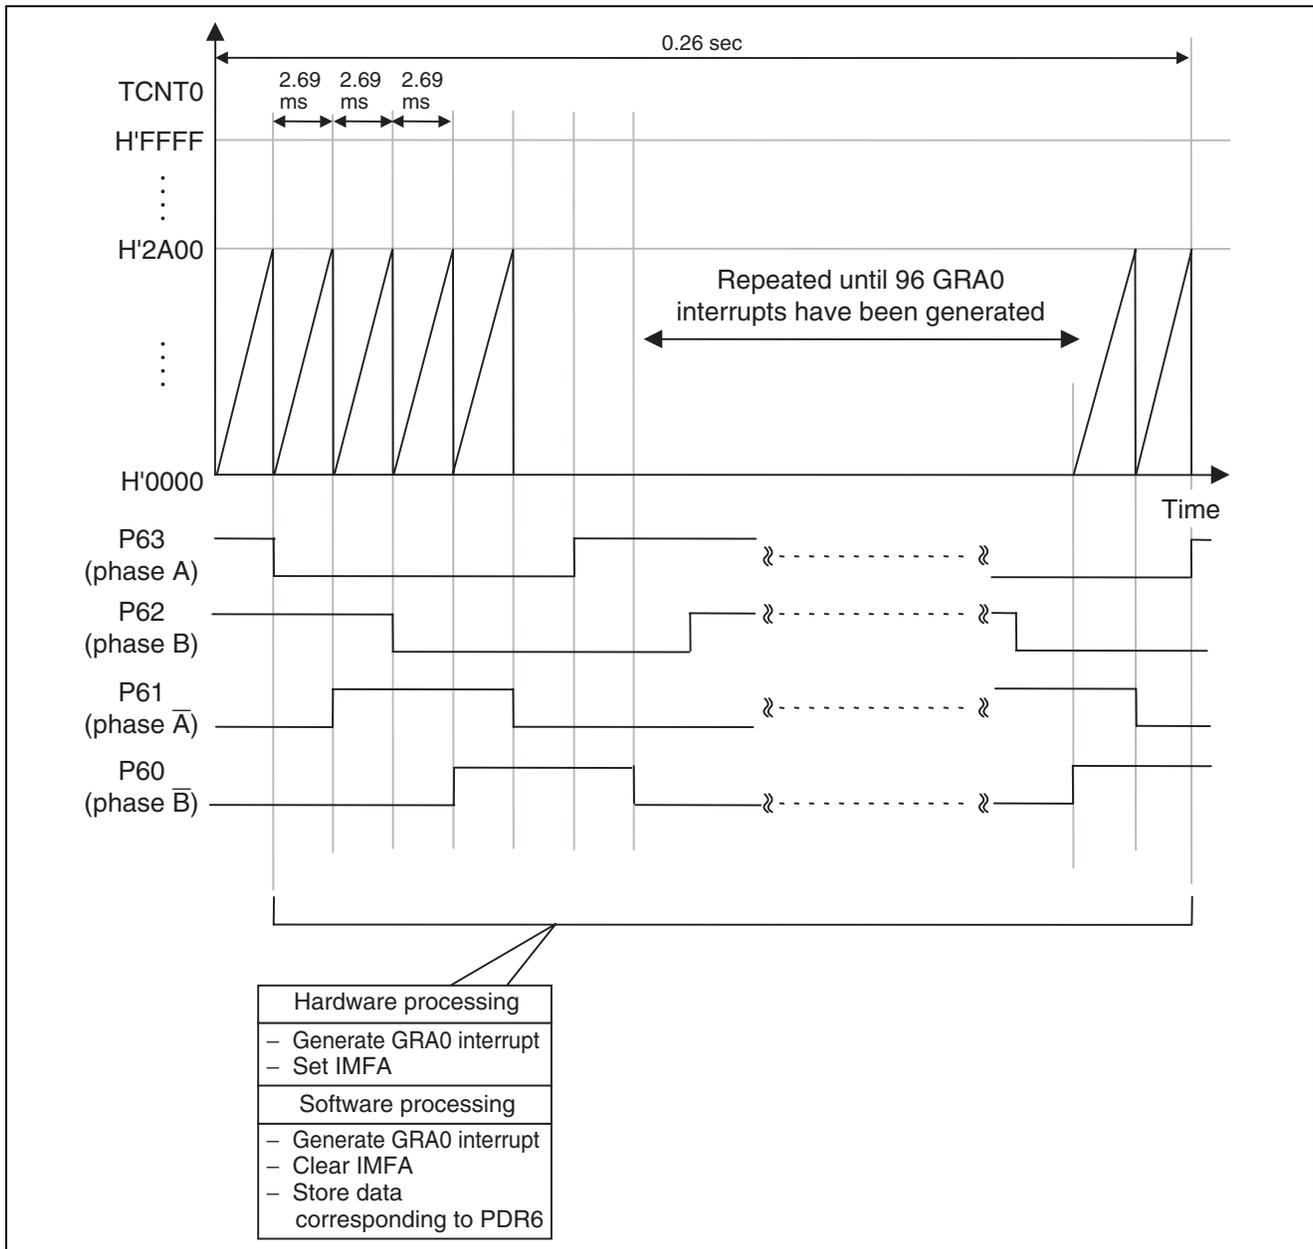

Figure 9 Principle of Constant Control during Forward Rotation
3.6 Figure 9 illustrates the principle of constant control during forward rotation